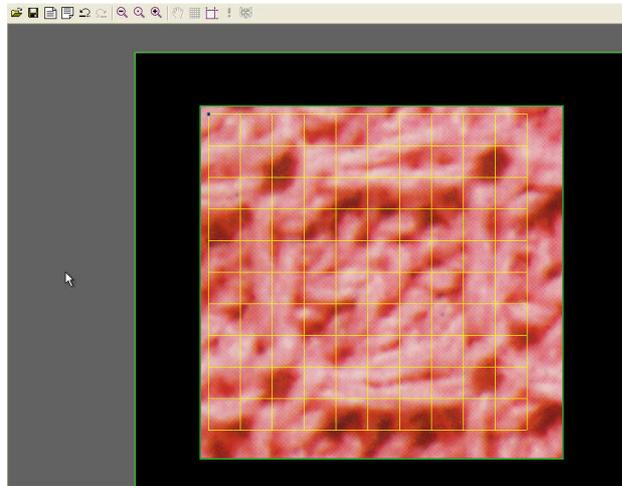

Figure 6-23A Knit Structure Adjusting Grid
3. Completed with the settings (Figure 6-23A);